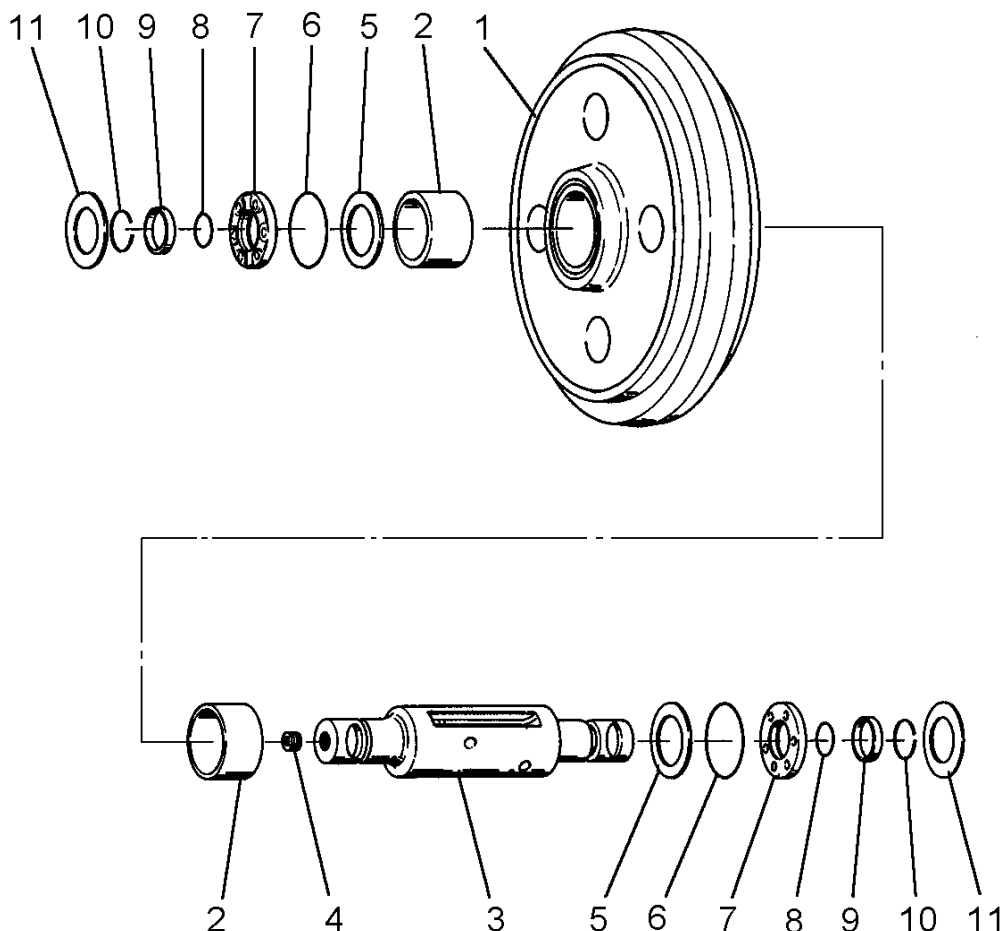

Fig. 14.13. Exploded View of Front Idler
8. DISASSEMBLY (Refer to Fig. 14.13)
10. REASSEMBLY (Refer to Fig. 14.13)